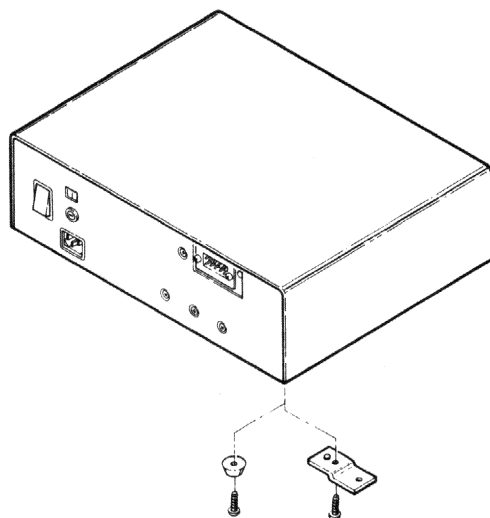

Figure 4-13 Mounting the TU58-EA and -EB
3. Install the four rubber feet using the four 1.3 cm (1/2 in) Phillips head screws to secure them to the bottom plates (Figure 4-13).
2. Install the four mounting brackets (bend facing the side of the TU58 housing) using the four 1.3 cm (1/2 in) Phillips head screws and lock washers to secure them to the bottom plates (Figure 4-13).